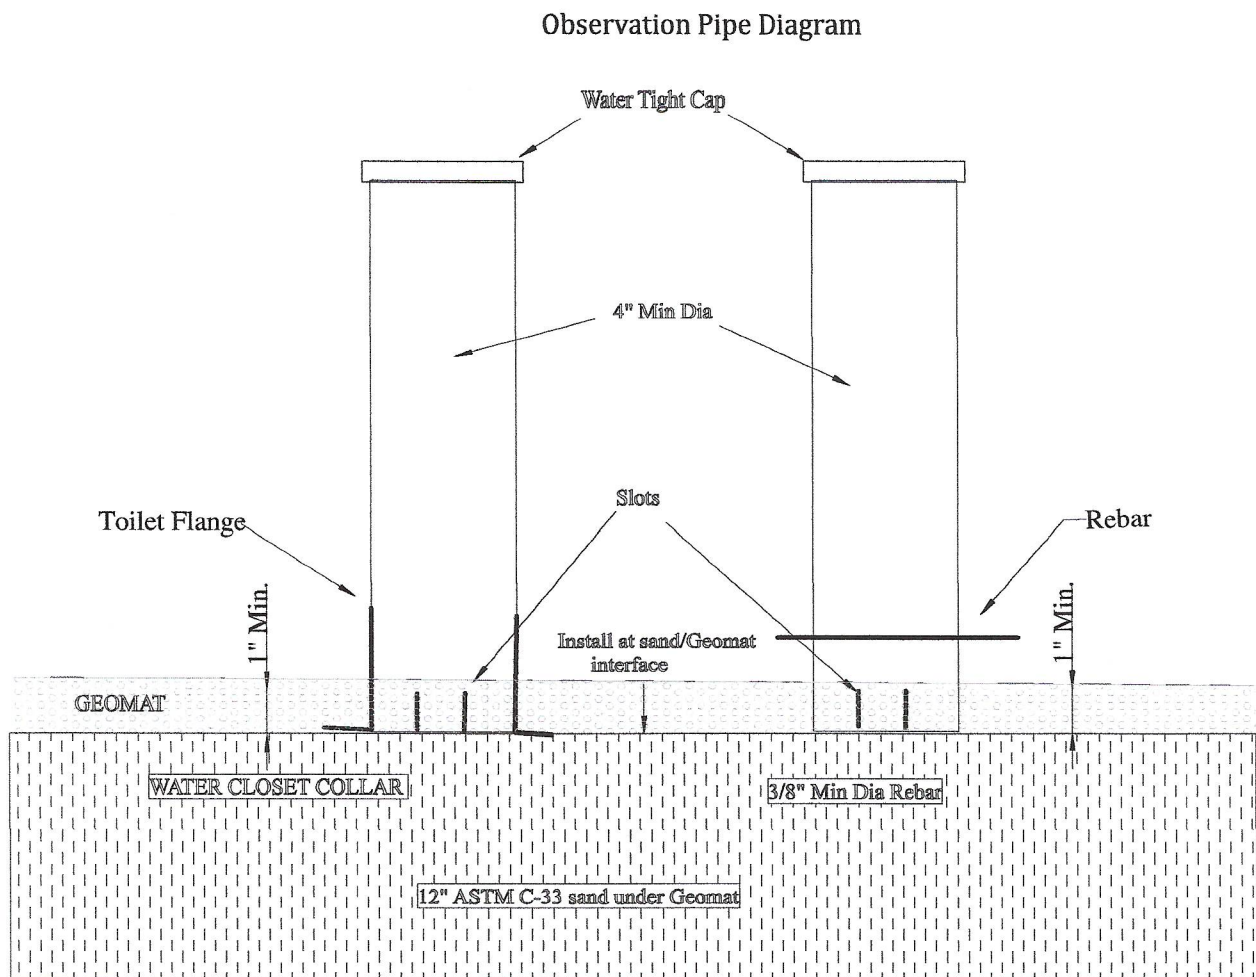

Figure 7
- Observation pipes must be located at each end of the distribution cell. Special care must be taken to make sure GeoMat is continuous and not separated to install Observation Pipe. Use zip ties to but material together. Have extra filter fabric to cover joints. Use a heavy blade or utility knife to create holes for observation pipe. See Figure 7.
The slots need to extend from the bottom of the GeoMat (placed flat on top of the sand) to the top of the fabric (approximately 1") See figure 7.